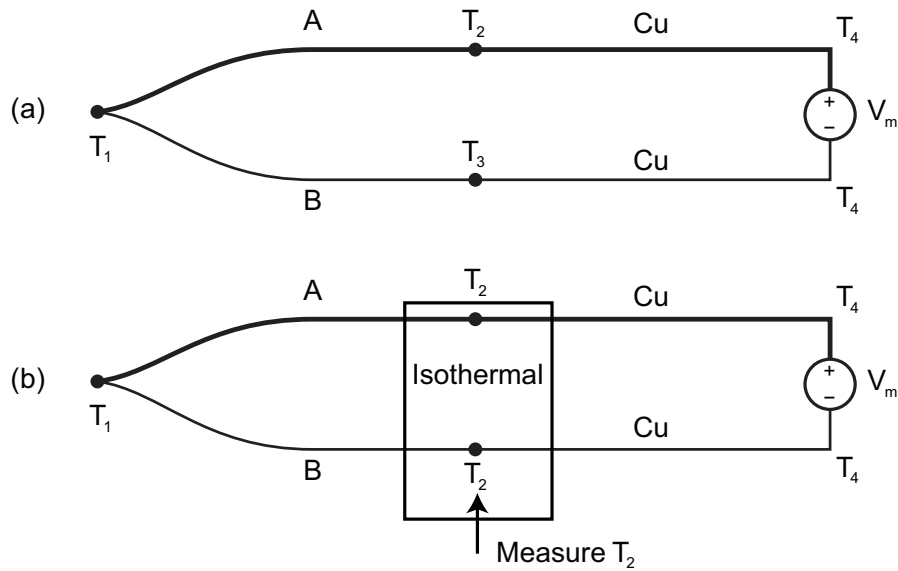

Figure 9: A thermocouple circuit without (a) and with (b) a cold junction.
12. Measuring temperature with a thermocouple is easy but requires some thinking. I will explain the philosophy of using a thermistor in conjunction with a thermocouple through Fig. 9. This technique is called cold junction compensation. For details on implementing a cold junction and reading in temperatures using a thermocouple, I've included as an appendix another document that we wrote some years ago. In short, read in the temperature from a thermocouple attached to the heater assembly and display it in real time on a chart.